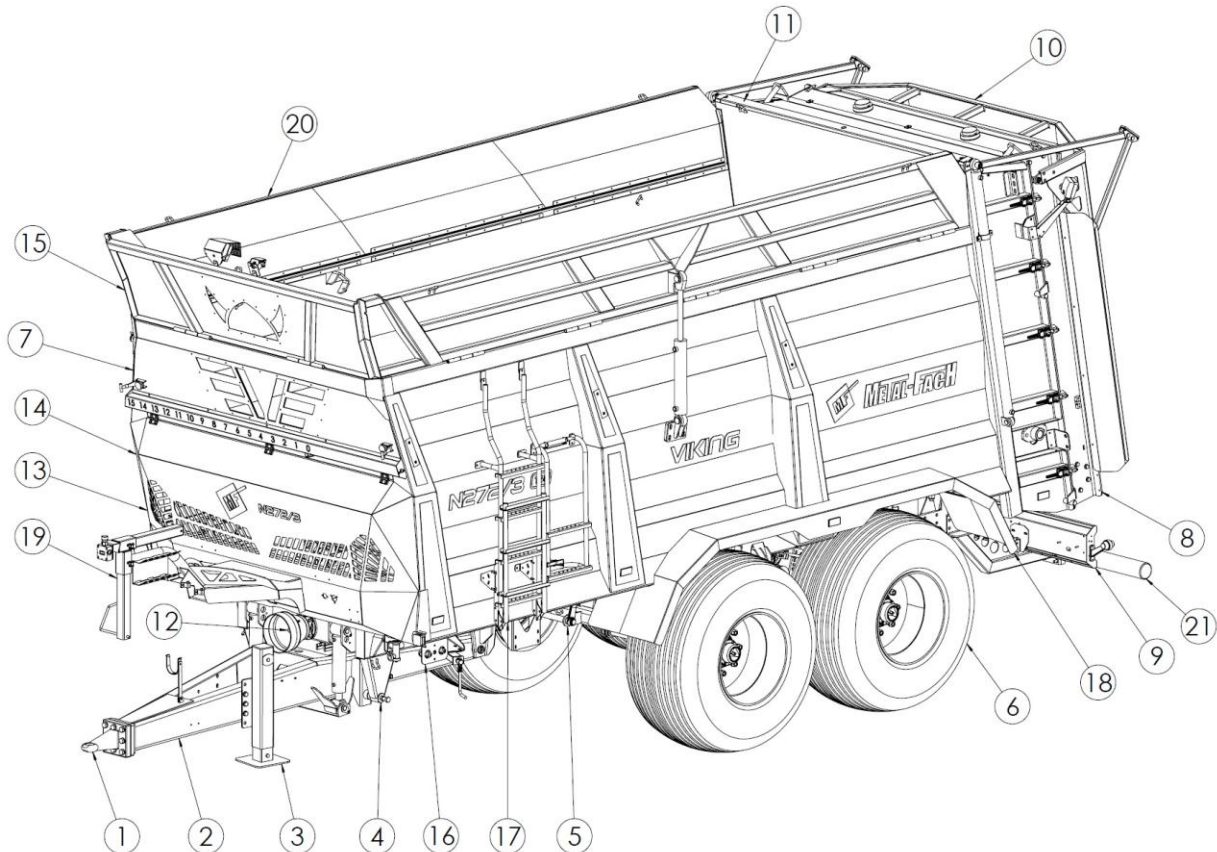

Figure 8. Main components of the manure spreader
The components of the spreader are shown in Figure 8. The main structural parts include a lower frame (4) with tandem/tridem spring-mounted suspension for N272/8 Spreader (5) on which the spreader body (7) is supported. A hydraulically sprung hitch (2) fitted with a fixed drawbar eye (1) is used for connection with the tractor's lower hitch. It is also possible to mount the eye for a rotary and ball drawbar. A mechanical parking jack (3) is attached to the drawbar to support the spreader when it is not connected to the tractor and to adjust the height of the drawbar during coupling. A fixed ladder (17) is installed on the left-hand side of the body wall to inspect the load compartment and enter the inside of the body during cleaning or